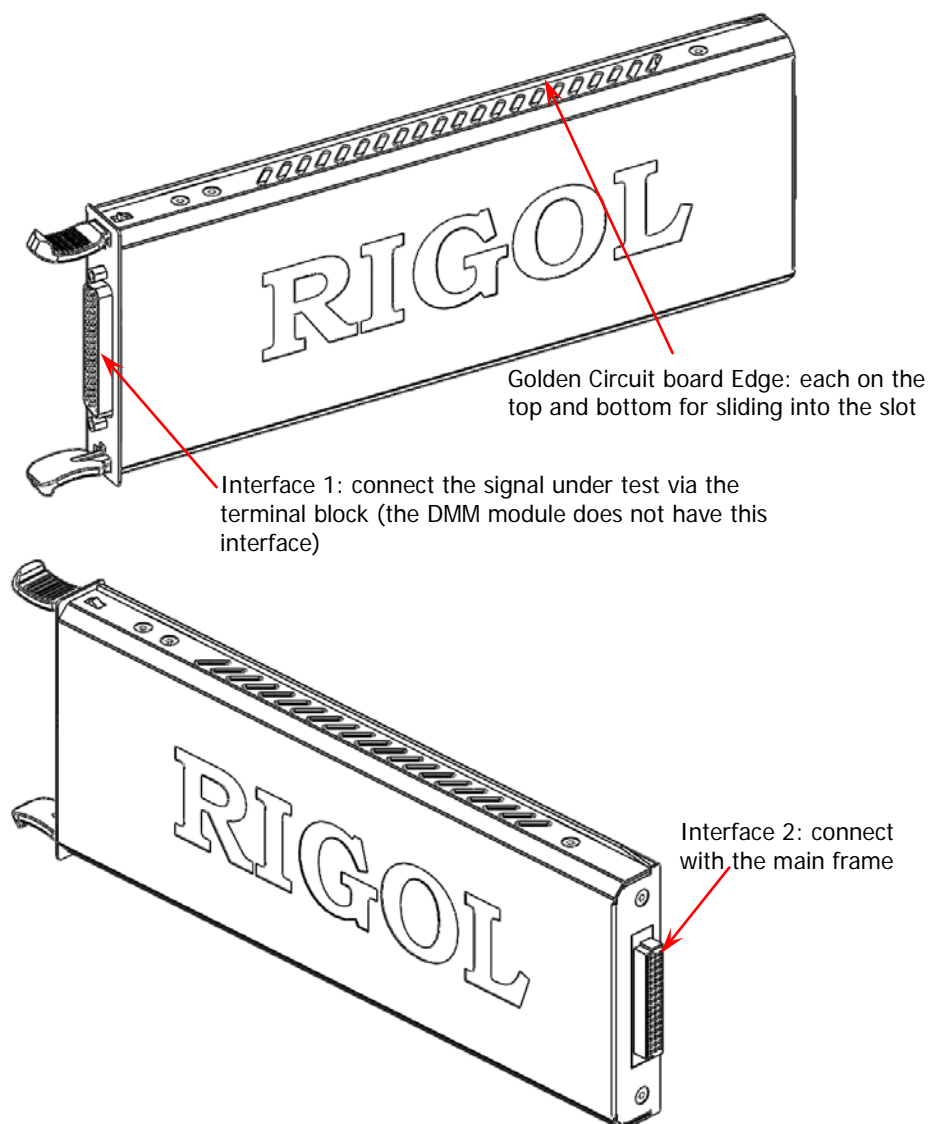

Figure 6 Outside View Drawing of the Plug-in Module
As shown in Figure 6, there is a golden circuit board edge on the top and bottom of the module. Aim the two edges with the sliding chutes (as pointed out by the arrows in the figure below) in the main frame slot and push the module in until you hear a sound. At this point, interface 2 is connected to the main frame.
3. Connect the terminal block to interface 1 (the interface definition is in Figure 6) on the module and screw down the two screw rods to fix them onto the nuts on the module.